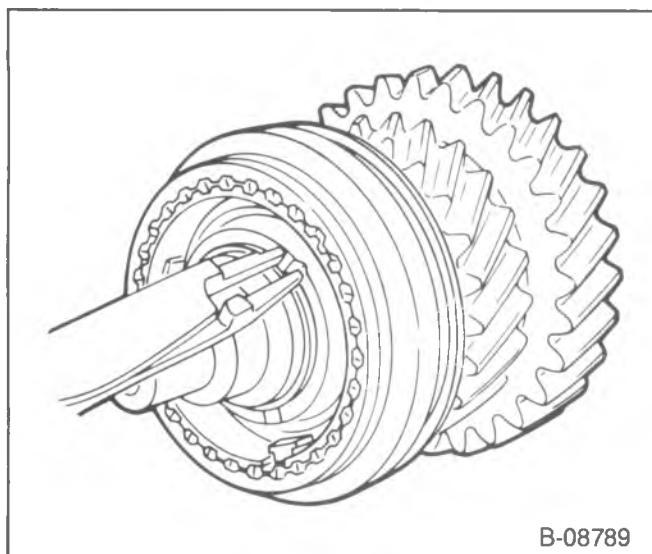
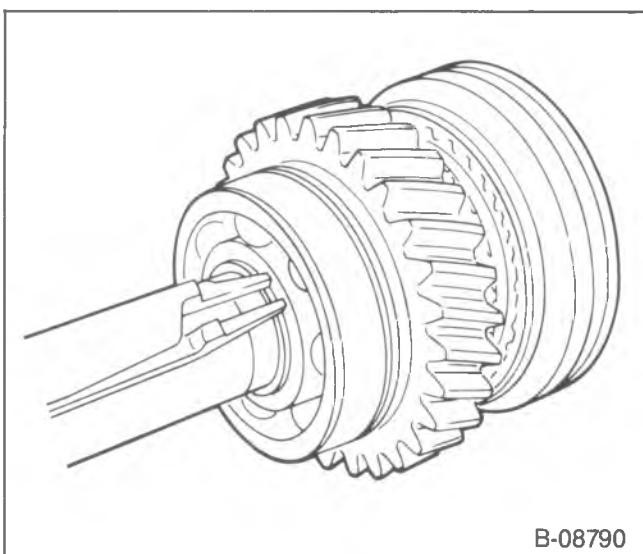
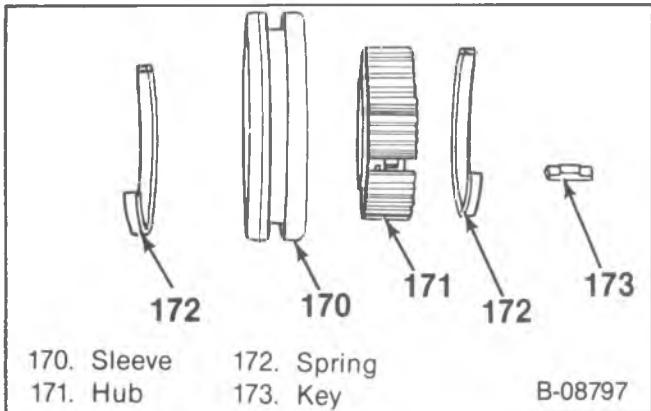

Figure 8—Removing the Synchronizer Snap Ring
Figure 9—Removing the Rear Bearing Snap Ring
Figure 11—Synchronizer Components
1. Remove the snap ring and slide the 2-3 synchronizer (107) off, (figure 8).
2. Remove the 2nd speed blocker ring and the 2nd gear (109).
3. Speedometer drive gear (119).
4. Rear bearing (129) and the reverse gear (114), (figures 9 and 10).
5. Remove the snap ring and the 1-Reverse synchronizer (137).
6. Remove the 1st speed blocker ring and the 1st gear (110).
7. Synchronizers (107 and 137), (figure 11).